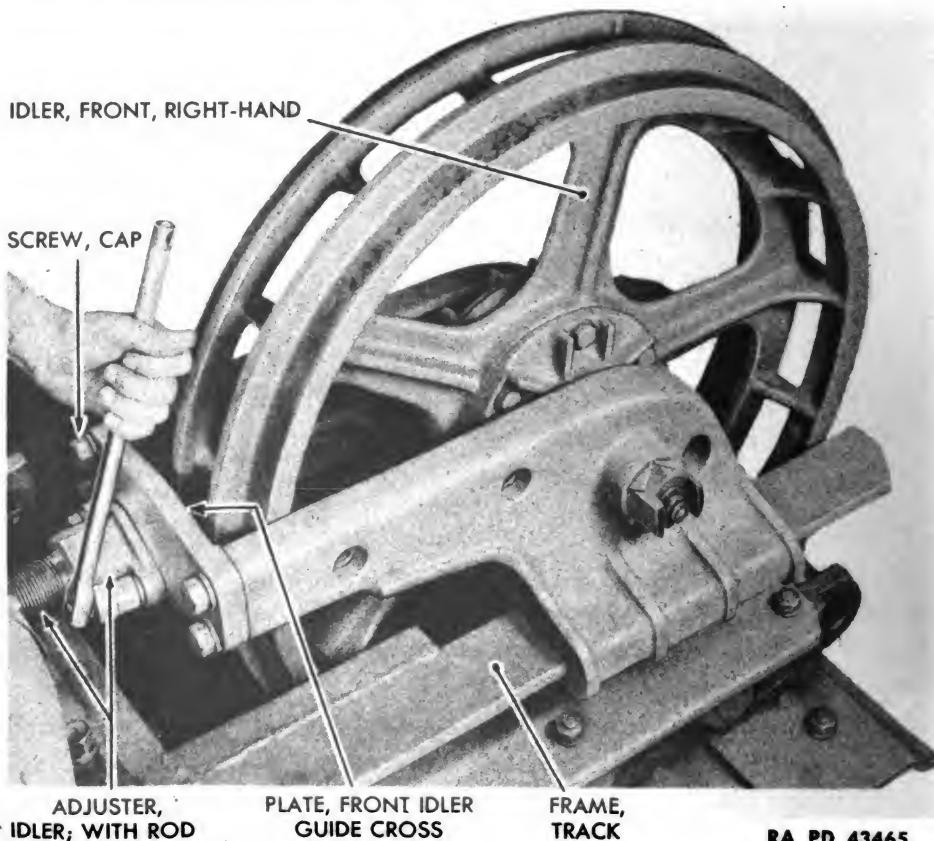

Figure 148 – Front Idler from Track Frame Removal
(2) REMOVE RIGHT FRONT IDLER (fig. 148).